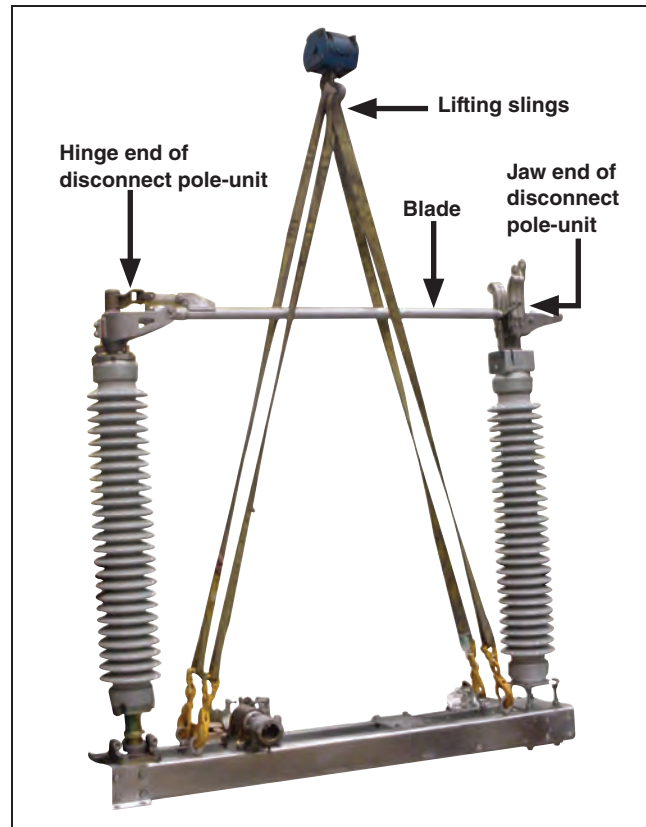

Figure 2. Attach the lifting slings to the disconnect pole-unit and raise it into place on the structure.
**STEP 2.** Make sure the rigging does not stress the blade or blade contacts. Raise the disconnect to the appropriate elevation and position it over the correct set of mounting holes in the mounting structure. Avoid sudden starts and stops, and avoid contact with other objects. See Figure 2.